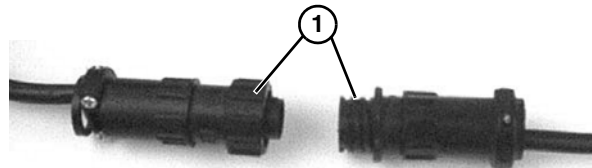

Figure 59
2. For variable speed motor, unplug cord at disconnect (**Figure 59, item 1**).